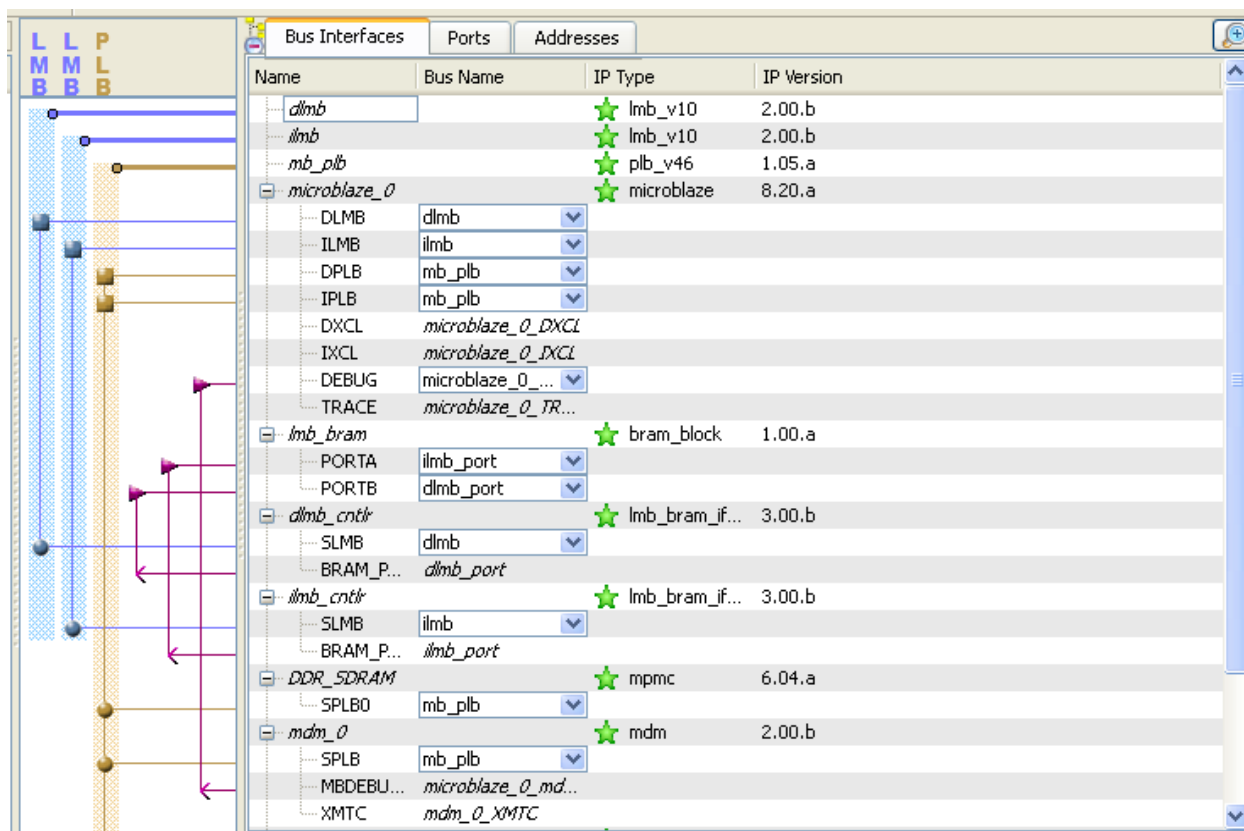

Figure 14. Detailed Bus Connections
- 2-1-2. In the **System Assembly View** click on plus button and observe the expanded (detailed) bus connection view of the system (**Figure 14**).